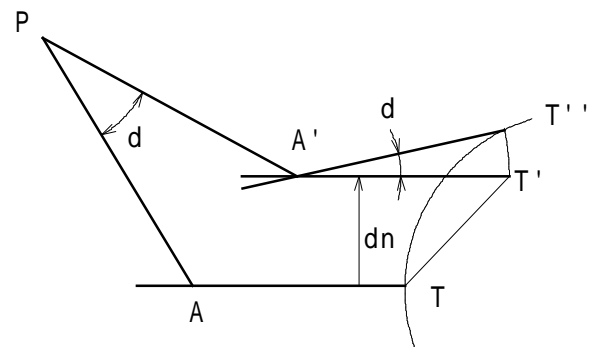

Fig.3
With this movement, the area swept by the tracer arm (AT) and the polar arm (PA) is, as depicted in Fig. 3: